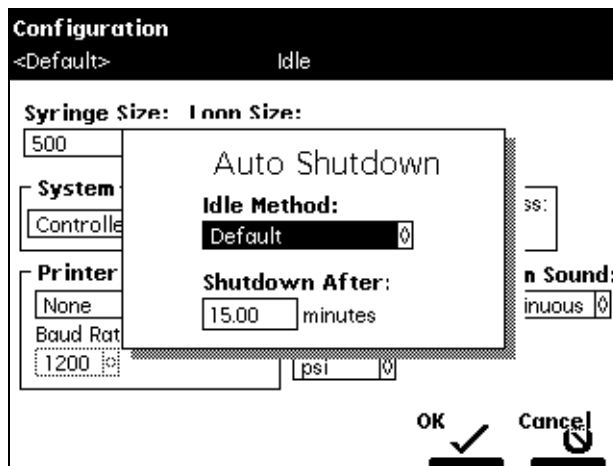

Figure 1-6 Auto Shutdown Dialog Box
2. Press the **Auto Shutdown** screen key. The Auto Shutdown dialog box appears (Figure 1-6).